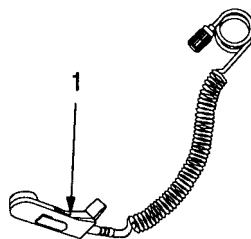

Figure 1-11. H-250 Handset Controls
c. H-250 Handset (figure 1-11).